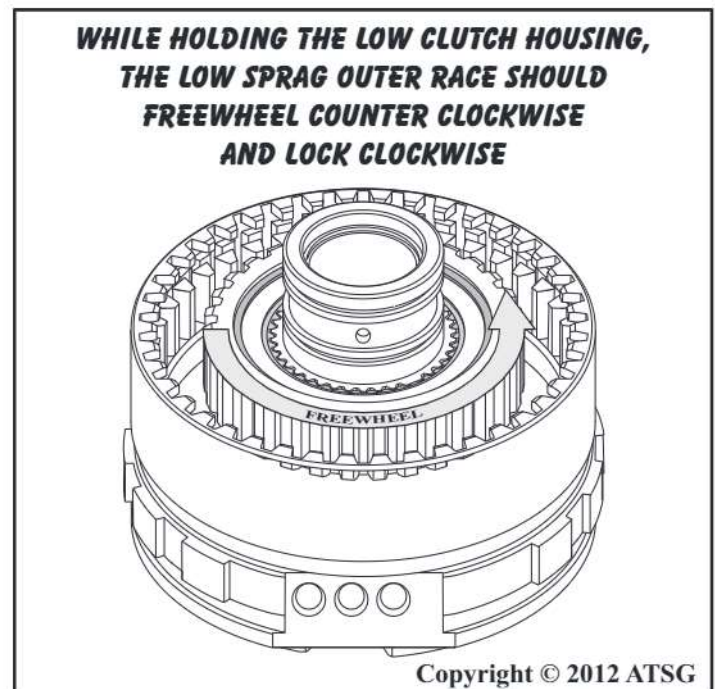

Figure 143
9. Install completed low sprag assembly into the empty low clutch housing (See Figure 143).
Note: The sprag outer race should freewheel in a counter-clockwise direction and lock in a clockwise direction (See Figure 143).